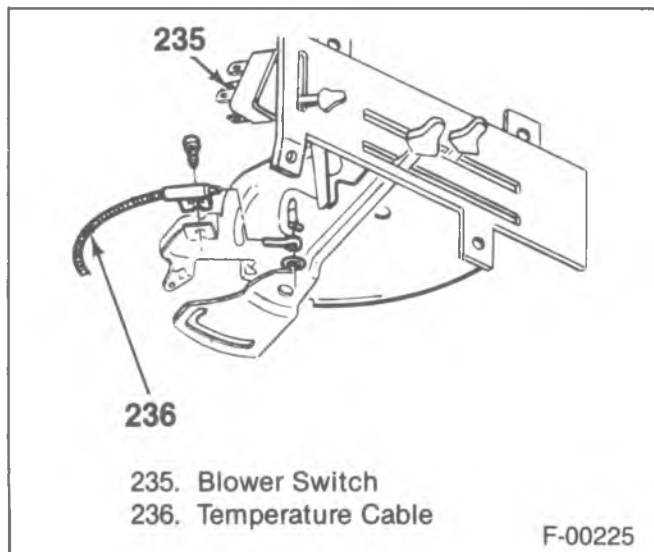

Figure 40—Control Assembly Replacement
←← Remove or Disconnect (Figure 40)
5. Cable (236) (figure 40).
→← Install or Connect (Figure 40)
Remove or Disconnect (Figure 40)
Install or Connect (Figure 40)